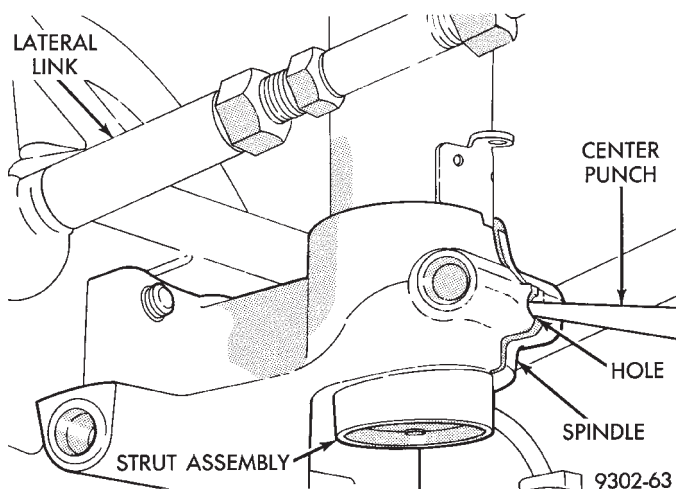

Fig. 7 Center Punch Installed In Spindle
(9) Insert a center punch into the hole on the spindle (Fig. 7). Center punch must be tapped into spindle until jammed into hole. This will spread spindle casting allowing it to be removed from strut assembly. Do not punch hole in strut with center punch.